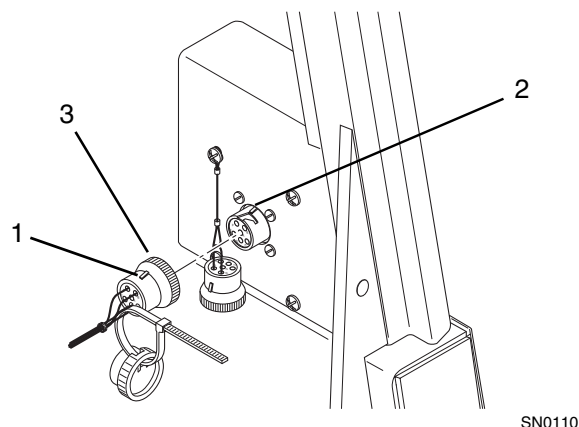

Figure 9-74 Front Door Harness Connector
- u. Line up tab on front door wire harness end (Fig. 9-74, 1) with the tab on the fuse block harness end (2). Rotate locking collar (3) until you are able to slide the two pieces together. Rotate locking collar (3) clockwise to lock in place.